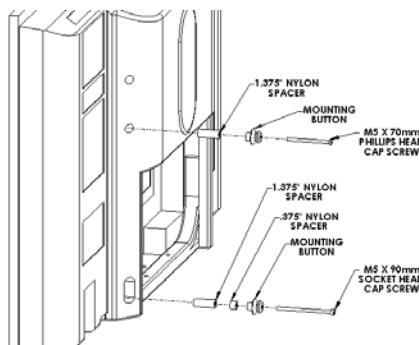
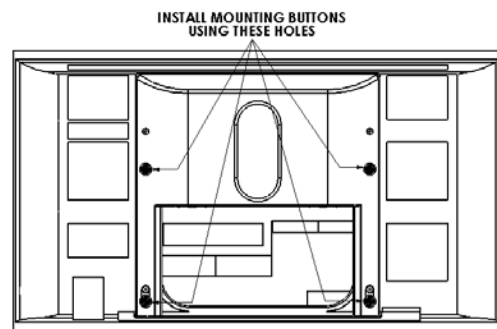

Figure 8
Figure 9
- Using M5 screws and nylon spacers, install mounting buttons on back of display (See Figure 8 & Figure 9). **Proceed to step 7 (page 3).**